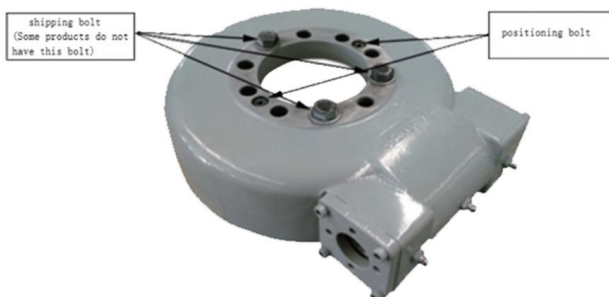

FIG. 2-3
3. The positioning bolts in FIG. 2-3 must be firmly tightened during installation. Installation activity can be carried out after shipping bolts removed.